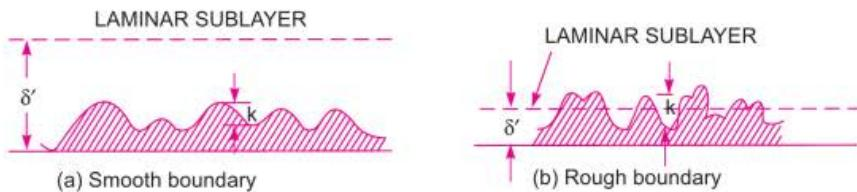

Fig. 10.4 Smooth and rough boundaries.
10.5.1 Hydrodynamically Smooth and Rough Boundaries. Let k is the average height of the irregularities projecting from the surface of a boundary as shown in Fig. 10.4. If the value of k is large for a boundary then the boundary is called rough boundary and if the value of k is less, then boundary is known as smooth boundary, in general. This is the classification of rough and smooth boundary based on boundary characteristics. But for proper classification, the flow and fluid characteristics are also to be considered.
If the average height k of the irregularities, projecting from the surface of a boundary is much less than δ' , the thickness of laminar sub-layer as shown in Fig. 10.4 (a), the boundary is called smooth boundary. This is because, outside the laminar sub-layer the flow is turbulent and eddies of various size present in turbulent flow try to penetrate the laminar sub-layer and reach the surface of the boundary. But due to great thickness of laminar sub-layer the eddies are unable to reach the surface irregularities and hence the boundary behaves as a smooth boundary. This type of boundary is called hydrodynamically smooth boundary.
Now, if the Reynolds number of the flow is increased then the thickness of laminar sub-layer will decrease. If the thickness of laminar sub-layer becomes much smaller than the average height k of irregularities of the surface as shown in Fig. 10.4 (b), the boundary will act as rough boundary. This is because the irregularities of the surface are above the laminar sub-layer and the eddies present in turbulent zone will come in contact with the irregularities of the surface and lot of energy will be lost. Such a boundary is called hydrodynamically rough boundary.
For the smooth boundary, there exists a laminar sub-layer as shown in Fig. 10.4 (a). The velocity distribution in the laminar sub-layer is parabolic in nature. Thus in the laminar sub-layer, logarithmic velocity distribution does not hold good. Thus it can be assumed that y' is proportional to δ' , where δ' is the thickness of laminar sub-layer. From Nikuradse's experiment the value of y' is given as
10.5.3 Velocity Distribution for Turbulent Flow in Rough Pipes. In case of rough boundaries, the thickness of laminar sub-layer is very small as shown in Fig. 10.4 (b). The surface irregularities are above the laminar sub-layer and hence the laminar sub-layer is completely destroyed. Thus y' can be considered proportional to the height of protrusions k . Nikuradse's experiment shows the value of y' for pipes coated with uniform sand (rough pipes) as $y' = \frac{k}{30}$.